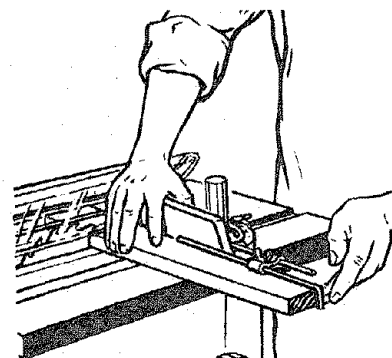

Figure 66
7. If the work overhangs the saw table enough to sag at each end, provide supports the same as in ripping operations. The stop rod on the miter gauge, or a stop block fastened to the extension, is used to fix position of left-hand edge of work for measuring length of piece to be cut off. (See figure 66.)